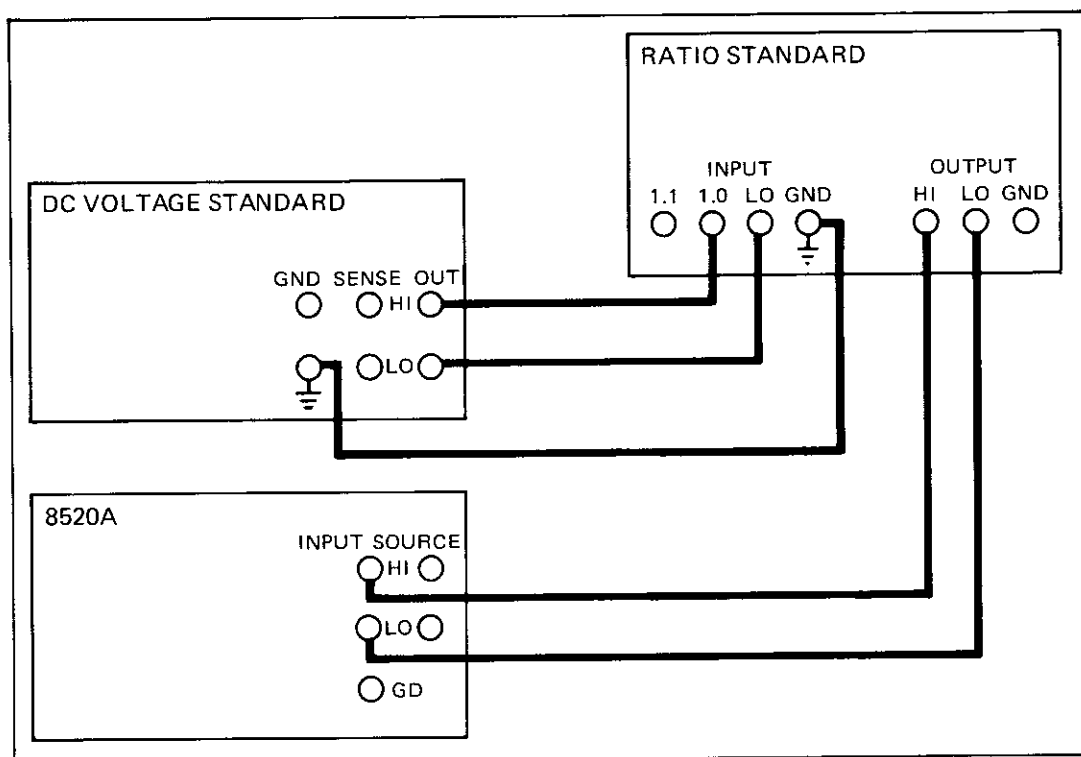

Figure 5-1. DC Voltage Verification
1. Connect the equipment as shown in Figure 5-1.